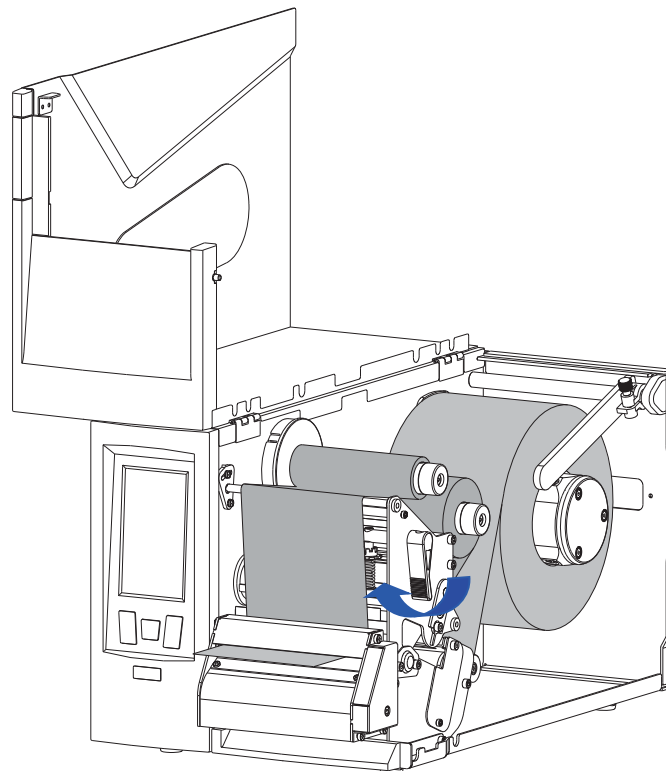

Figure 2-25 Lock the Printhead
5. Turn the Lever clockwise to lock the Printhead in place, as shown in Figure 2-25.